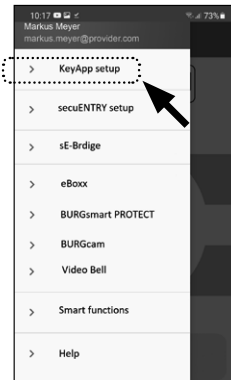

Fig. 38
- 3 Tap on the menu item "KeyApp setup" (Fig. 38).